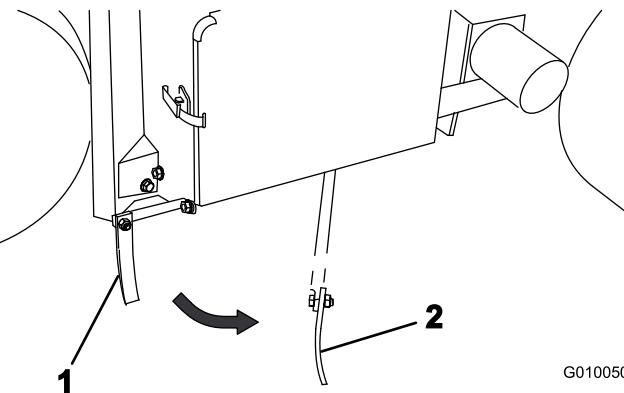

**Figure 34**
3. Securely fasten the aerator tie downs (Figure 32 through Figure 34) to the trailer or truck with straps, chains, cable, or ropes.